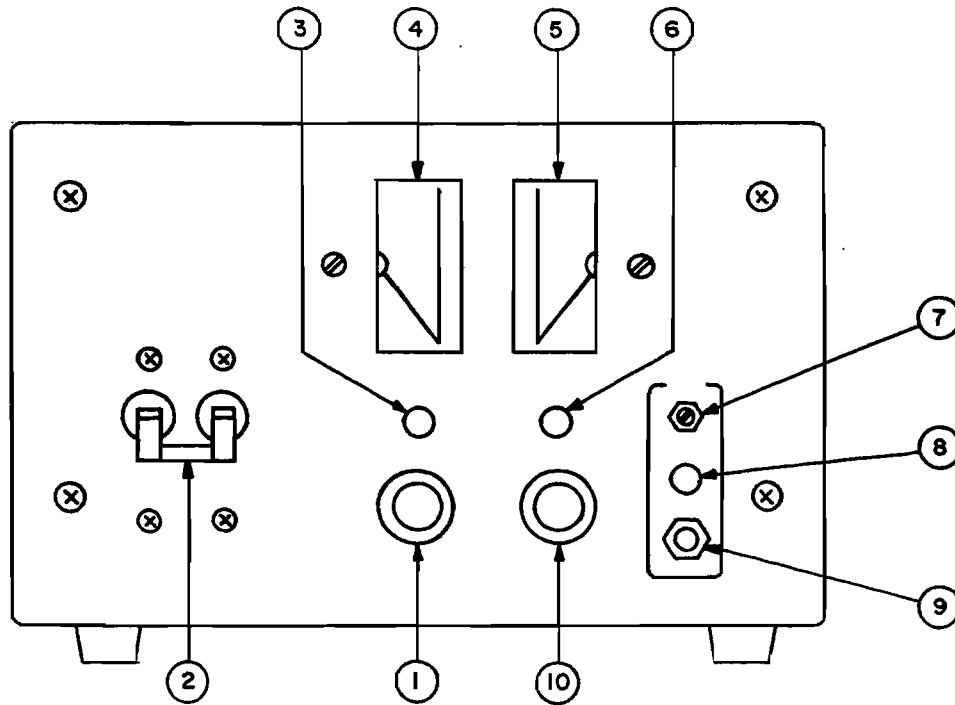
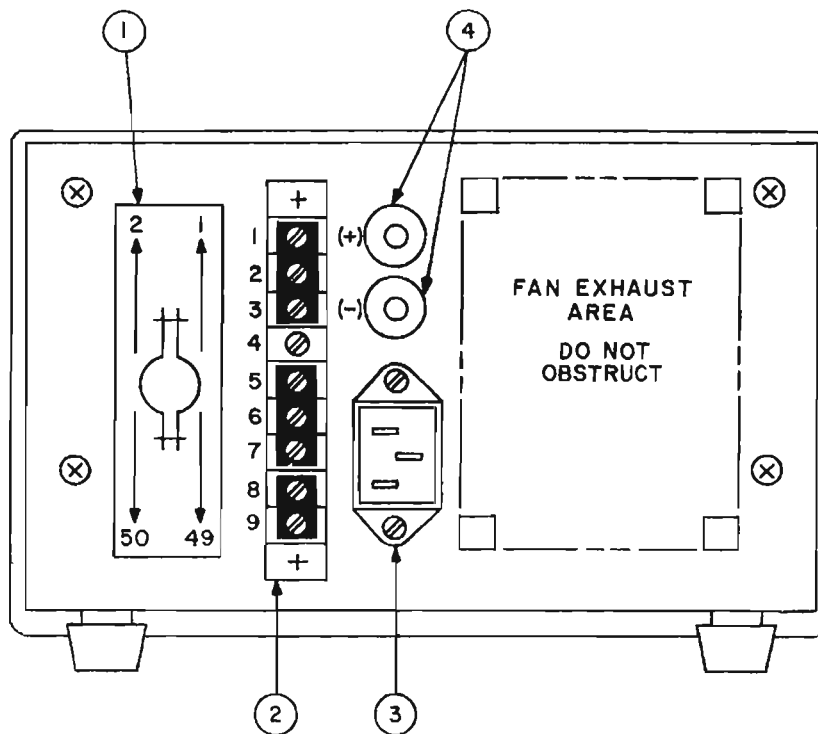

FIG. 2-2 CONTROL AND TERMINATIONS, ATE 1/2 RACK GROUP, FRONT.
FIG. 2-3 TERMINATIONS, ATE 1/2 RACK GROUP, REAR.
- a) FRONT PANEL: Refer to FIG. 2-2 and Table 2-2.
- b) REAR: Refer to FIG. 2-3 and Table 2-3.
2-9 A simple operating check after unpacking and before permanent installation is advisable to ascertain whether the power supply has suffered damage resulting from shipment. Refer to FIG. 2-2 and to FIG. 2-3 for the location of the operating controls and output terminals.
A resistor/capacitor network is connected from the negative monitor terminal to the metal chassis of the power supply. If this internal network is *not* desired, the connection to the chassis can be opened by removing the link (8)-(9) on TB201 (See FIG. 2-3).